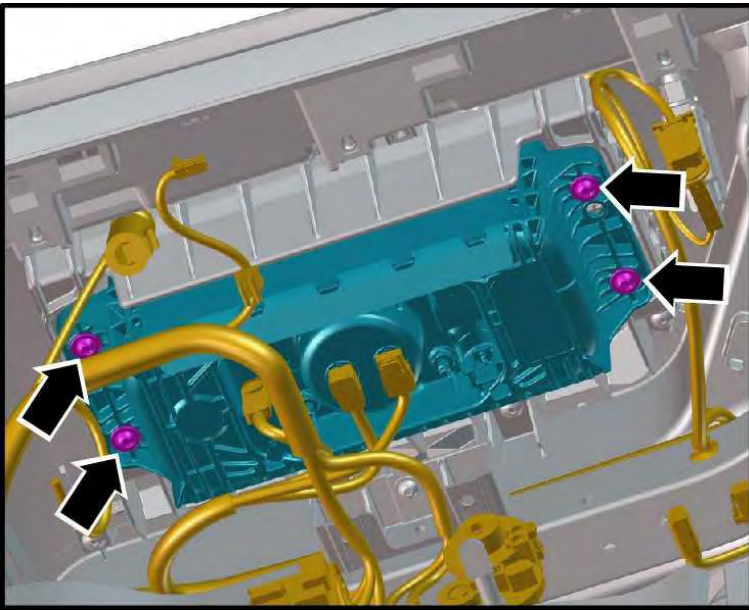

Figure 62
2. Check the security of the four airbag retaining fasteners part number N91093502 (Figure 62) torque check the fasteners to 9Nm